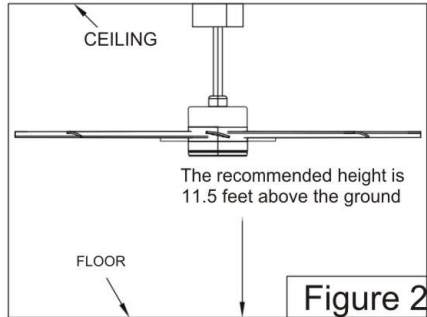

Figure 2
**WARNING:** The fan must be hung with at least 11.5 ft. of clearance from floor to ceiling fan. (Figure 2)